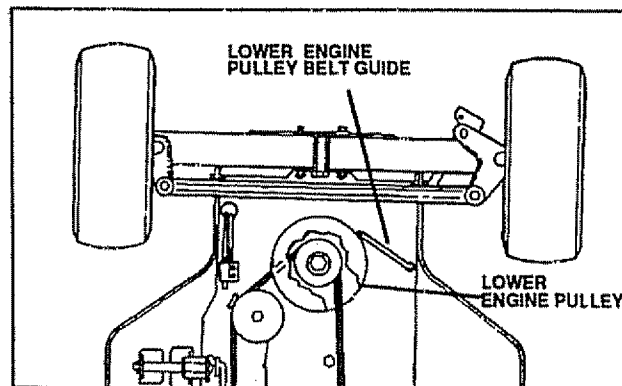

FIG. 20
- Flex lower engine pulley belt guide away from pulley (see **FIG. 20**).